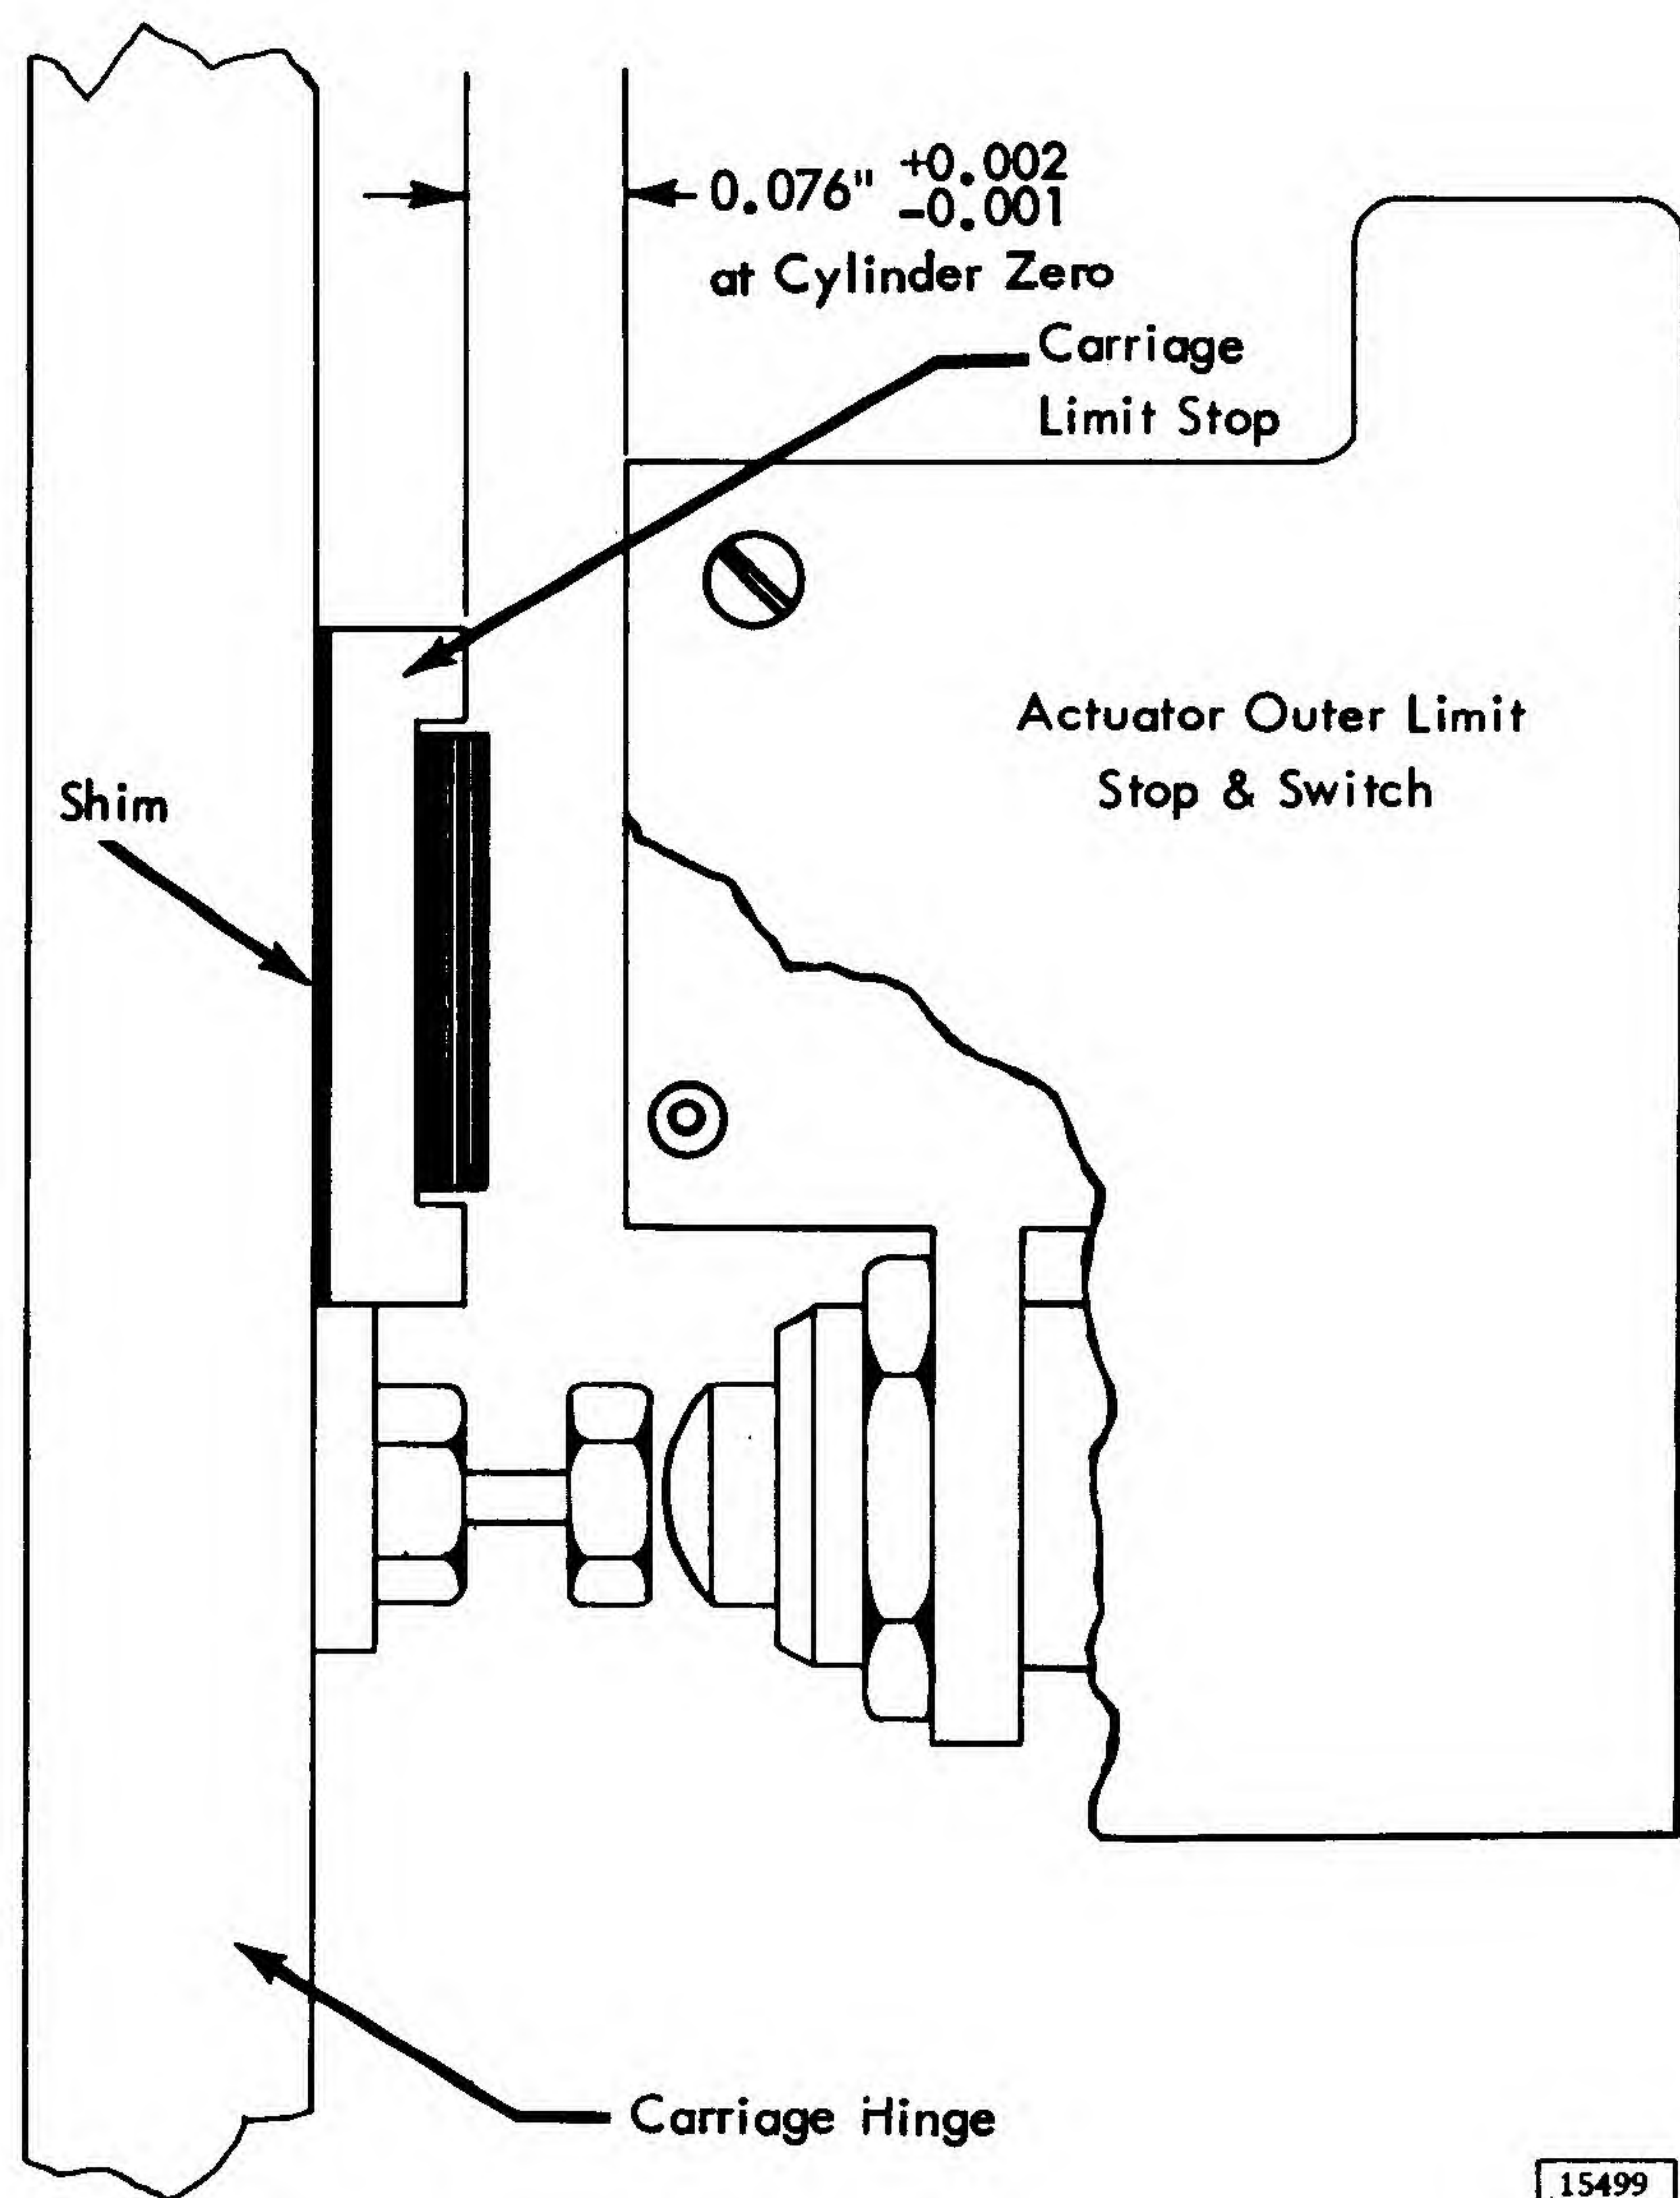

Figure 2-40. Carriage Outer Limit Stop Adjustment
Removal (Figure 2-40)
3. Place a .076" shim between carriage limit stop and actuator outer limit stop (see Figure 2-40).
1. Detent the output shaft at cylinder zero. Measure and record the space between the actuator outer limit stop and the carriage limit stop (Figure 2-40).